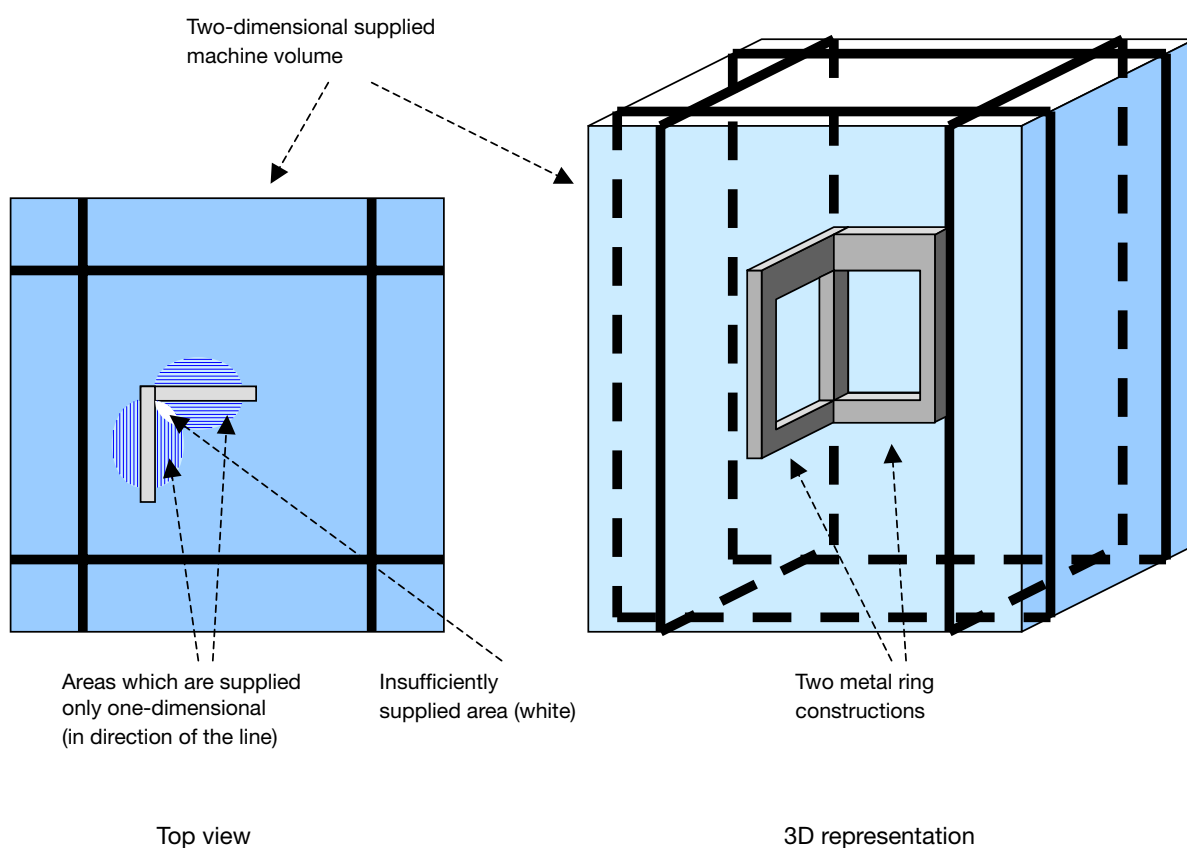

Fig. 1.9: Attenuation of the magnetic field by electrically conductive ring constructions (example)
- c Inside of ring constructions (see figure) with continuous electric connections the electromagnetic field induces currents which can attenuate the energy field of the primary loops. In order to avoid an attenuation of the electromagnetic field, the electric conductivity of those ring constructions has to be interrupted, e.g. by inserting an isolating plastic part, unless the distance to the loops or potential sensor positions is large enough (see b and fig. 1.9)
- If any of the ring constructions mentioned above cannot be electrically interrupted by inserting insulating plastic parts, one dimension of the electromagnetic field will be attenuated as shown in fig. 1.9. If wireless devices shall be used in this area, the second dimension of the electromagnetic field around the place of installation must not be shielded or attenuated in any other way.